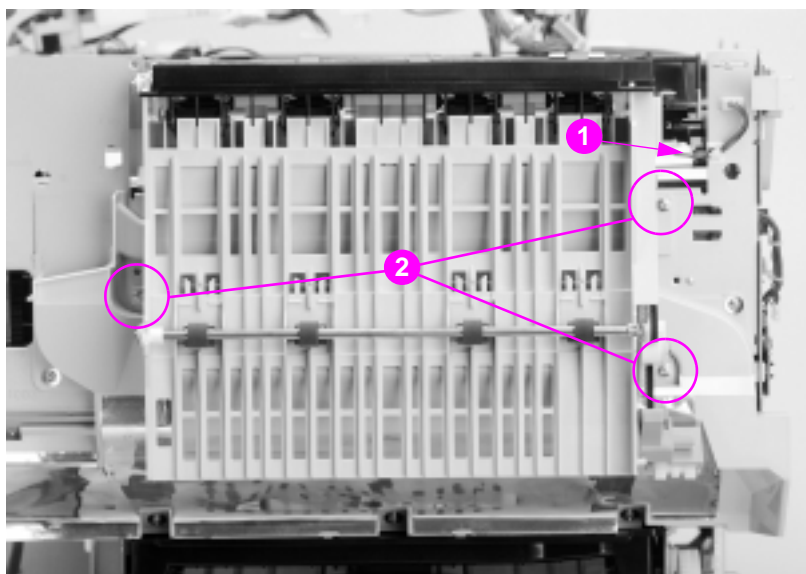

Figure 6-58 Rear paper path assembly removal and replacement
- 5 Disconnect the bin full sensor shown in Figure 6-58 (callout 1).